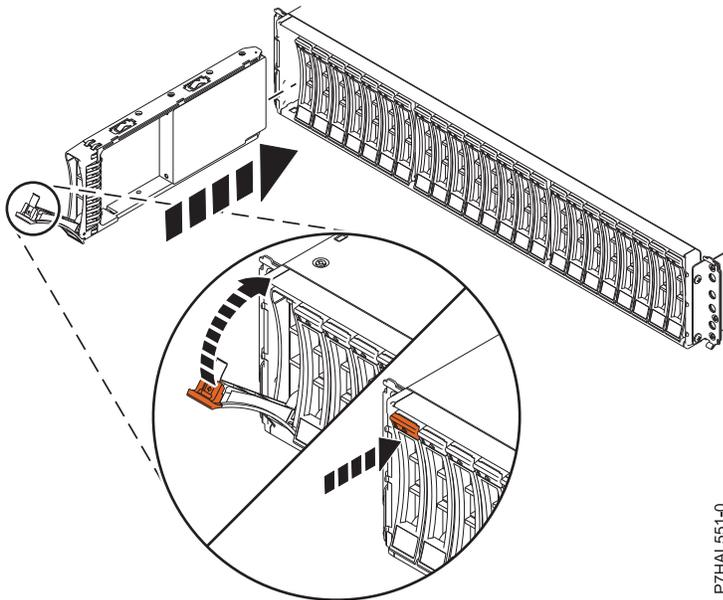

Figure 15. Installing the disk drive in the 5887 expansion unit
1. With the handle in the unlocked position, see Figure 15, support the bottom of the disk unit as you align it with the guide rails in the expansion unit. Do not hold the disk unit solely by the handle.